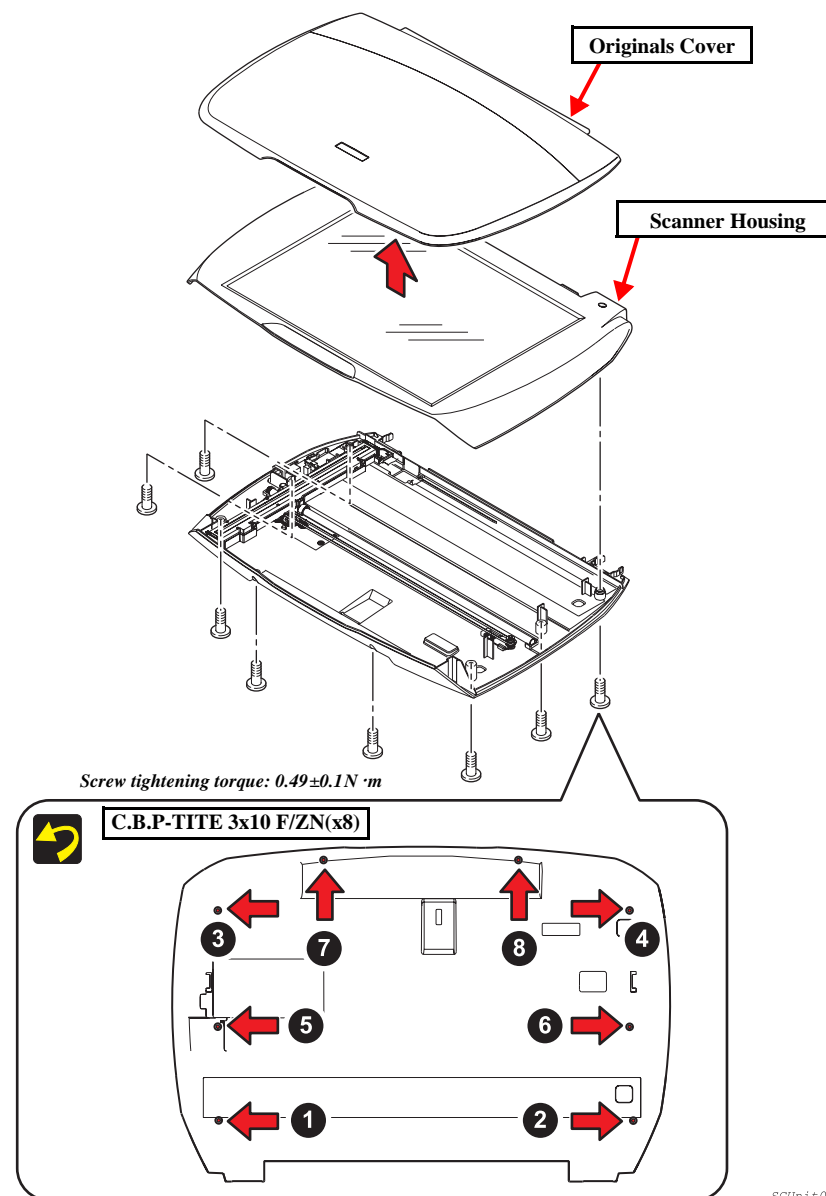

Figure 4-6. Scanner Housing Removal
- Tighten the screws in the order indicated in Figure 4-6.